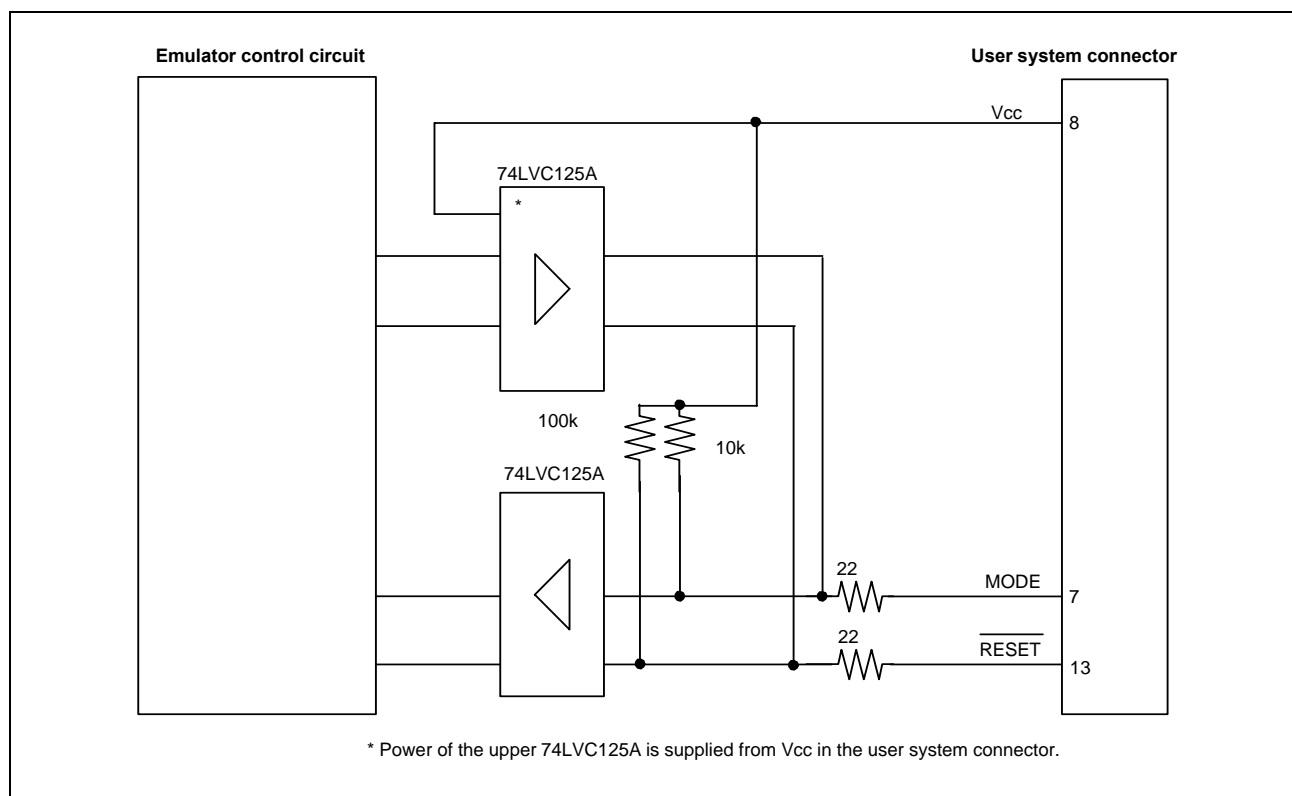

Figure 3.4 Interface Circuit in the Emulator (Reference)
6. Figure 3.4 shows the interface circuit in the emulator. Use this figure as a reference when determining the pull-up resistance value.